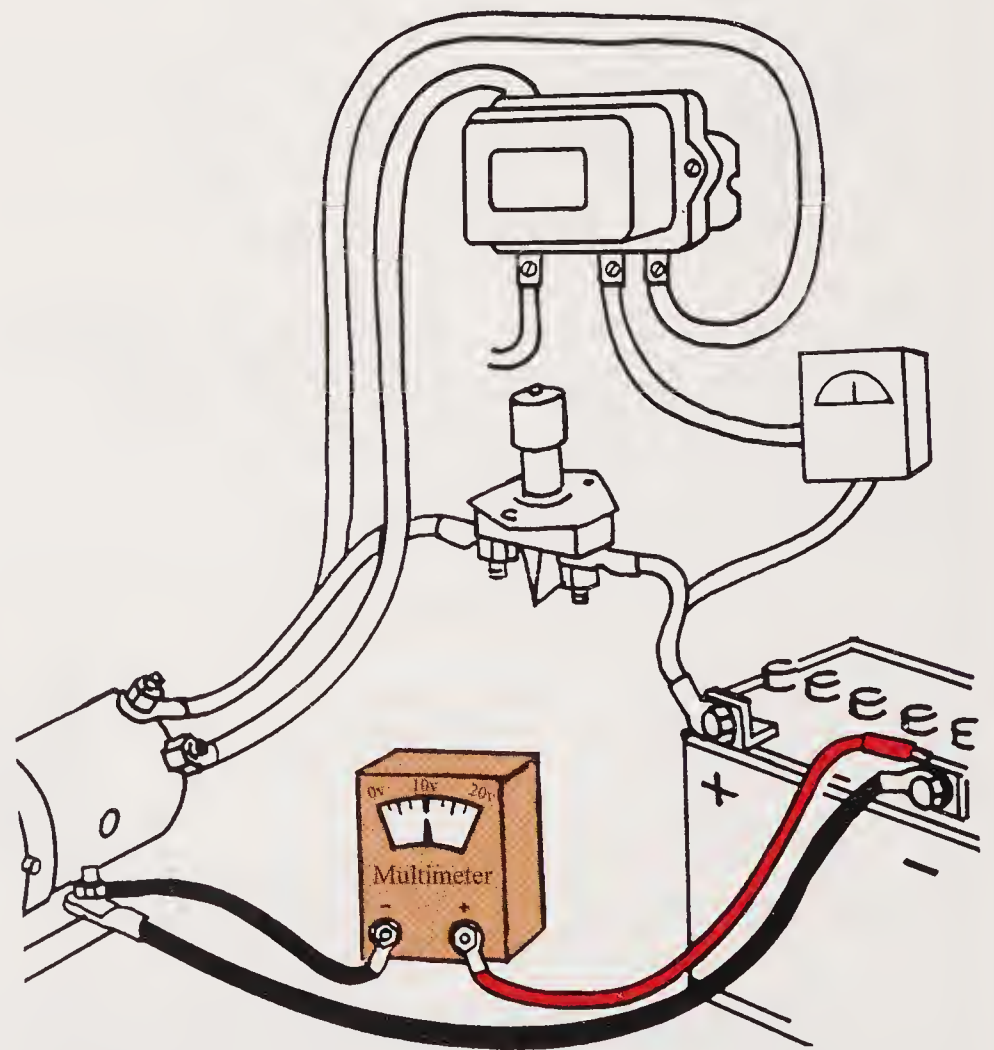

Figure 14-50. A multimeter set on a voltage setting can be used to check battery and starter-generator system ground connections.
- a. Test the ground connection at the starter-generator or at the battery with a multimeter set to a voltage setting. If the negative battery cable goes to ground, attach the negative meter lead to the starter-generator mounting frame, and clip the positive meter lead to the negative post of battery. See **Figure 14-50**. Reverse this procedure if the system is a positive ground. If the meter shows about 10V, move on to the